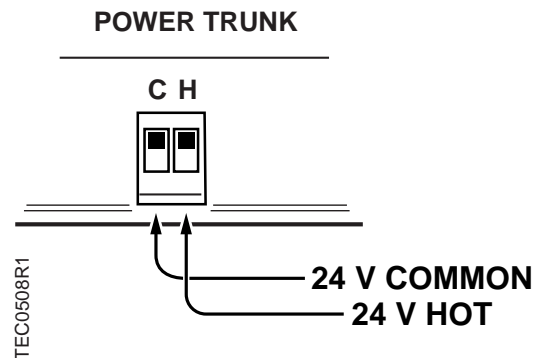

Figure 3. Power Trunk Wiring.
8. Connect the power trunk (Figure 3). **DO NOT** apply power to the controller.